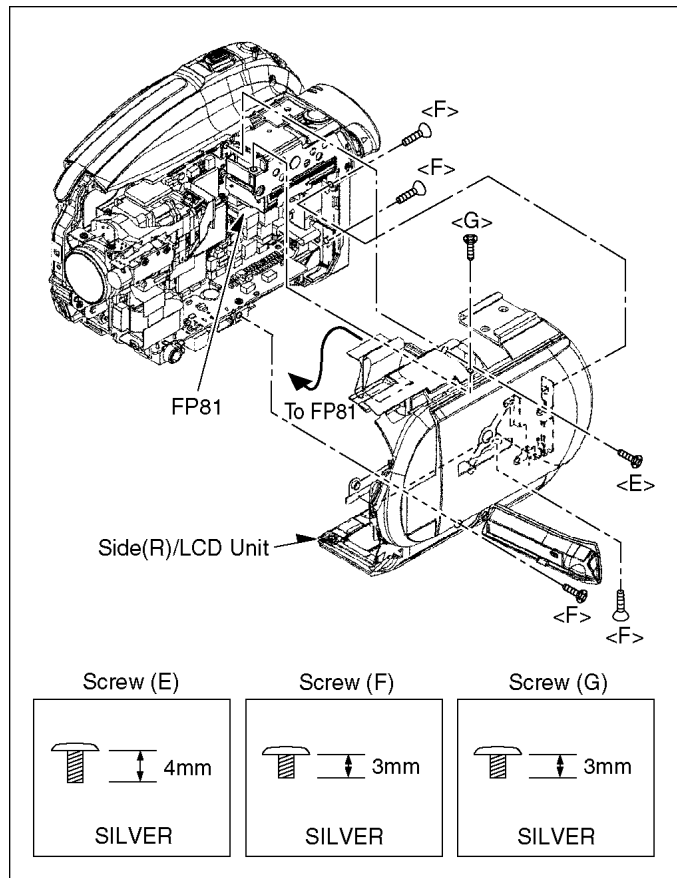

Fig. D3
| 2 | Side(R)/LCD Unit | Fig. D3 | 1-Screw (E) 4-Screws (F) 1-Screw (G) 1-Connector FP81 Side(R)/LCD Unit |